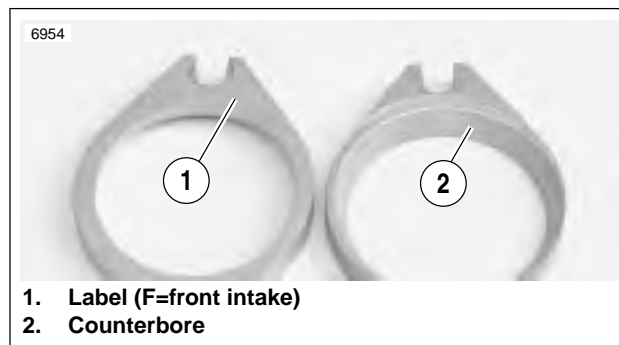

Figure 4-112. Intake Flanges
1. See Figure 4-112. Install front and rear intake flanges onto throttle body with the counterbore facing out. Each intake flange is labeled and the pieces are not interchangeable.